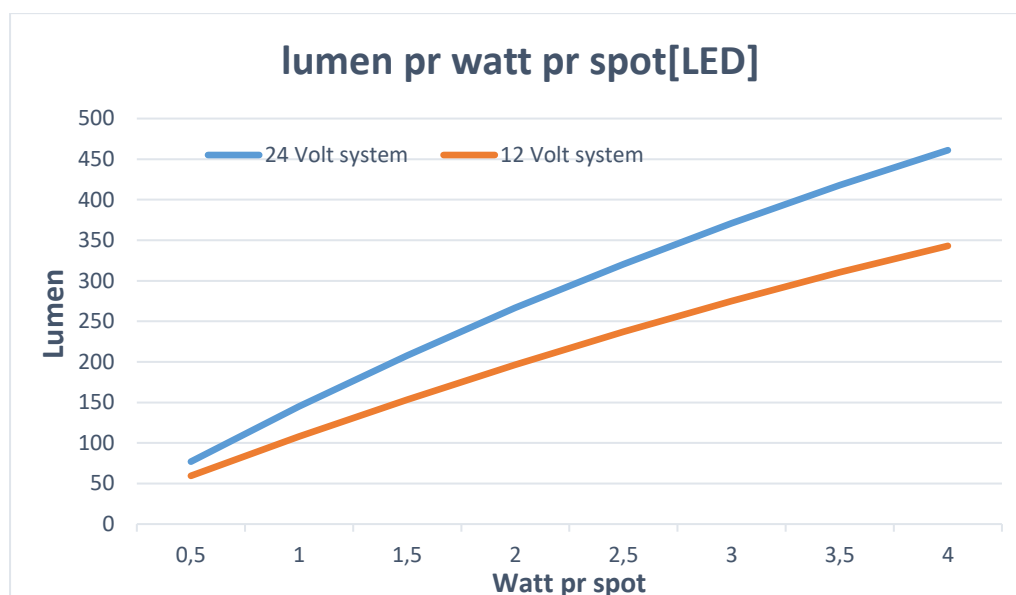

Figure 5 Lumen pr Watt emitted from each spotlight (LED) – Typical data.
Figure 5 shows the relationship between drive power pr spot vs emitted Lumen. Typical data for 12V and 24V systems are shown.
**Note:** The data in Figure 5 are typical data and indication only – consult the datasheet for the specific TRACY® panel as Lumen will, e.g., vary slightly with type of selected optics and color temperature.